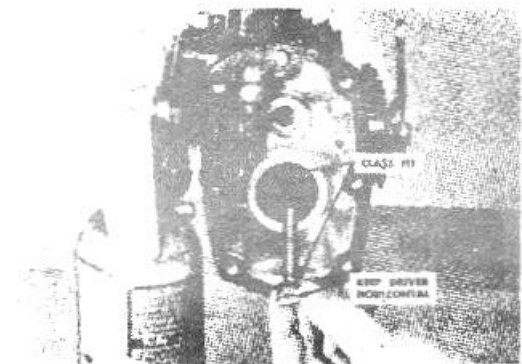

Figure 4-70. Replace governor plunger.
13. Place the governor plunger in the governor plunger barrel. Fig. 4-70.